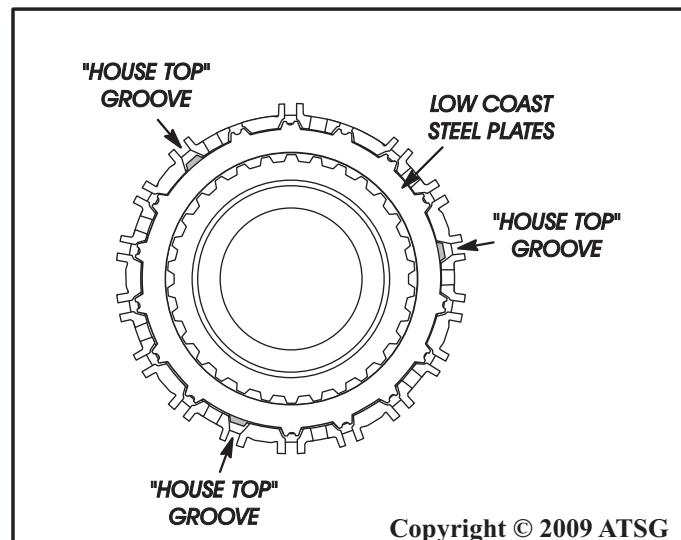

Figure 187
Note: *The low coast steel plates have a small "V" notch in the center of each lug, and one lug eliminated every 120 degrees, as shown in Figure 187.*
5. The steel plates **must** be installed with missing lug lined up with "house top" grooves in the forward clutch piston, as shown in Figure 187.